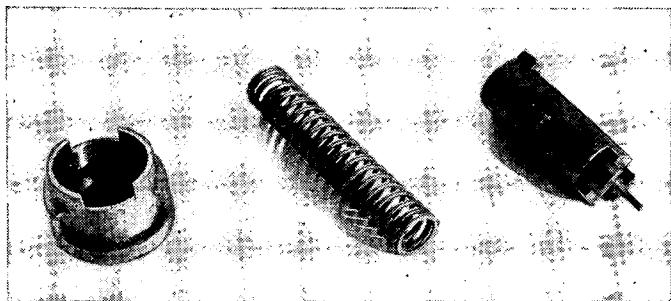

FIGURE 9.—Firing mechanism—disassembled.
c. Assembly.—With the breechblock removed from the breech recess, place the sear spring (fig. 10) over the small end of the sear and insert the sear and spring into place through the recess in the right side of the breechblock. Press the arm of the sear into the recess as far as it will go and place the sear retainer in its seat in the small end of the sear as it projects on the left side of the breechblock. Release the pressure to permit the sear spring to move the sear to the right, seating the retainer in the counterbore of the sear hole. If the parts of the percussion mechanism have been separated, insert the firing spring stop into the firing pin guide, pronged end first, and rotate until the prongs project through the openings in the end of the guide. Place the retracting spring in the body of the firing pin and screw the firing pin into the guide from the rear until the shoulder of the pin seats against the end of the guide inside, with the point of the pin projecting from the forward end of the guide. Press the stop in against the retracting spring to expose the traverse pinhole in the guide. If the pinholes in the guide and firing pin are not in alinement, screw the firing pin backward not to exceed one-half turn to aline the holes. Insert the $\frac{3}{32}$ -inch steel pin through the guide and firing pin, and release the stop to permit the prongs to cover and retain the pin. With the breechblock in the breech recess insert the percussion assembly (fig. 9) into the rear end of the firing pinhole in the breechblock, firing pin point first, with the cocking lug on the right and the sear lug on the bottom